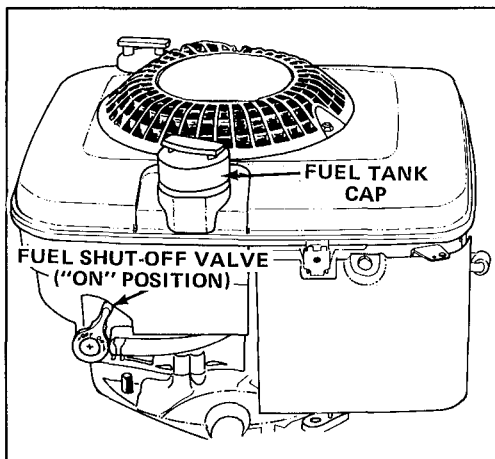

Figure 6
1. Clean around fuel tank cap and remove cap from tank (Fig. 6). Using unleaded gasoline, fill fuel tank to within 1/4" to 1/2" (6 to 13 mm) from top of tank, not into filler neck. Do not fill tank full.
3. Move fuel shut-off valve to "ON" position (Fig. 6).